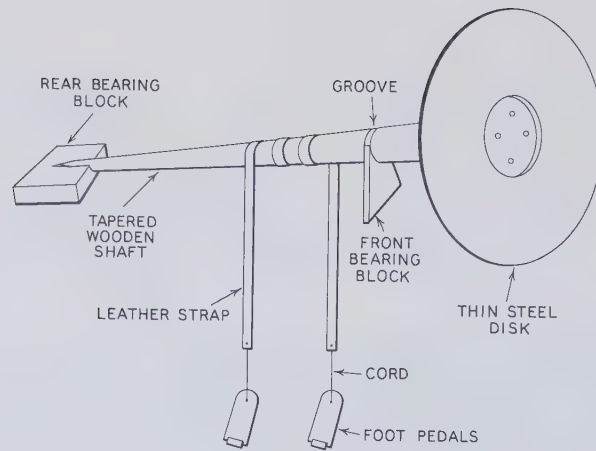

Fig. 25 The Chinese mud saw and carving machine.
**Mud Saw Types.** There are three types of mud saw blades in use, (1) circular saw blades, (2) straight blades, and (3) wire blades. Straight blades can be divided further into hack-saw types where the motion is back-and-forth, as in ordinary hand sawing, and band saws where a narrow ribbon of metal runs over rollers in a vertical plane. Jig saws, that is those which run a band of metal up and down, are not used, although there seems to be no reason why they cannot be. In all types, the loose silicon carbide grit is applied to the blade or wire as a wet slurry, and drawn into the cut and rubbed against the stone by the metal band or wire, thus deepening the cut until the stone is sectioned. Circular blades leave a flat smooth surface which is sometimes of better quality than that produced by a diamond saw. On the other hand, band saw blades often leave wavy surfaces, depending on the width of the blade. A wavy surface also results from the use of hack saw blades but if the blade is wide enough, the surface will be flat. The worst surfaces are left by the wire saw since any slight lateral movement of the machine which runs the wire back and forth results in wandering.
**The Chinese Circular Mud Saw.** The ancient genius of the Chinese solved the problem of the circular mud saw long before anyone else, and despite the availability of modern diamond saw machinery, they still use their ancient, tried-and-true model, as shown in Figure 25. This machine looks rickety and the idea of cutting anything on it seems impossible but when one sees an artist working on this machine, and notes how quickly and accurately he can slice through the toughest jade, one begins to feel respect. The author saw such artists using this machine in Hong Kong and